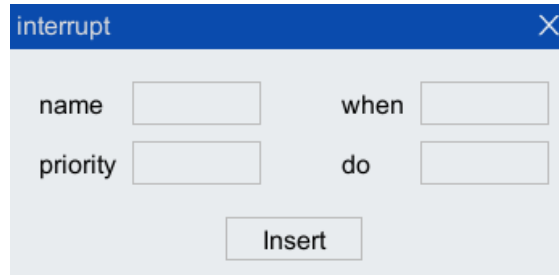

Figure 5-46 "Interrupt" instruction configuration interface
Step1.Click "Insert Cmd> Interrupt Trigger> Interrupt" option in the toolbar of the program editor to pop up "interrupt" instruction interface, as shown in Figure 5-46.